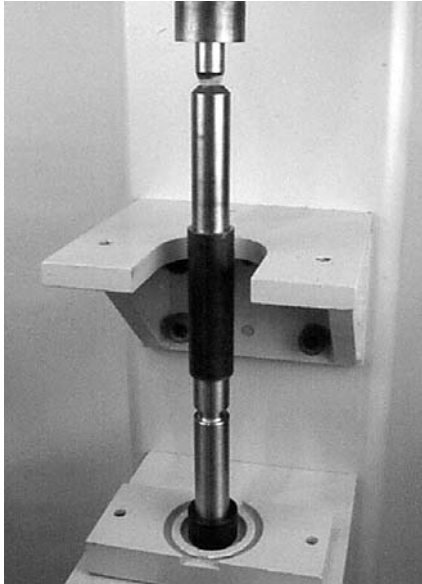

Figure 56
- Using arbor press or similar device, press bearing onto pulley shaft (see Figure 56).